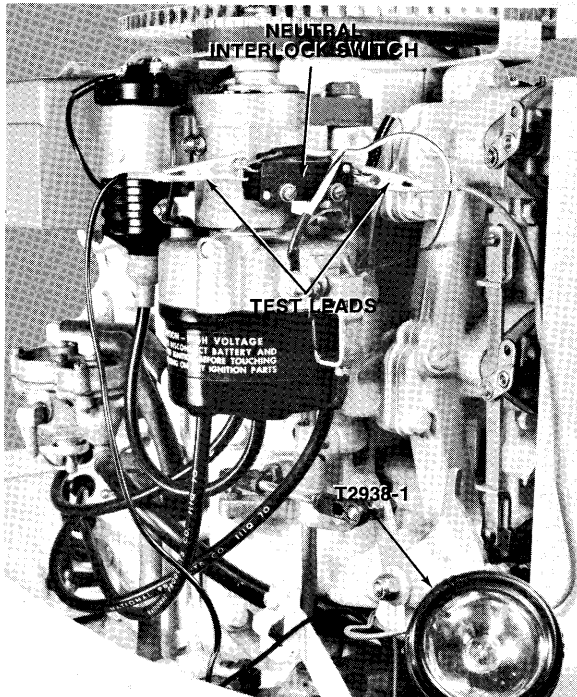

Figure 11—Connection of Test Light Lead Wires
- C. Connect leads of test light (Special Tool T2938-1) to neutral interlock switch as shown in figure 11.